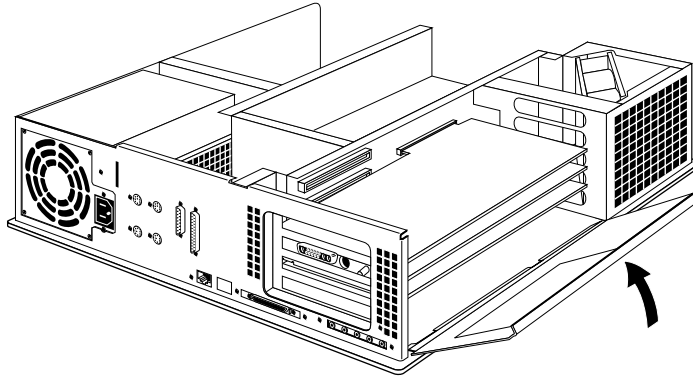

Figure 4-6 Closing the Metal Panel in Front of the EISA Slots
7. Tip the metal panel up until it snaps into place, as shown in Figure 4-6.